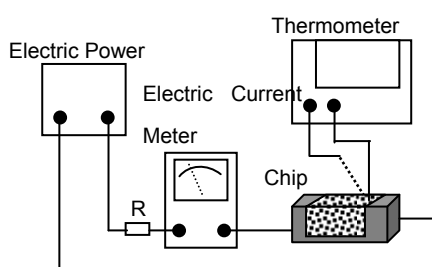

Fig. 5.3.5-1
- Definition of Rated Current(Ir): Ir is direct electric current as chip surface temperature rose just 20°C against chip initial surface temperature(Ta) (see **Fig. 5.3.5-2**).